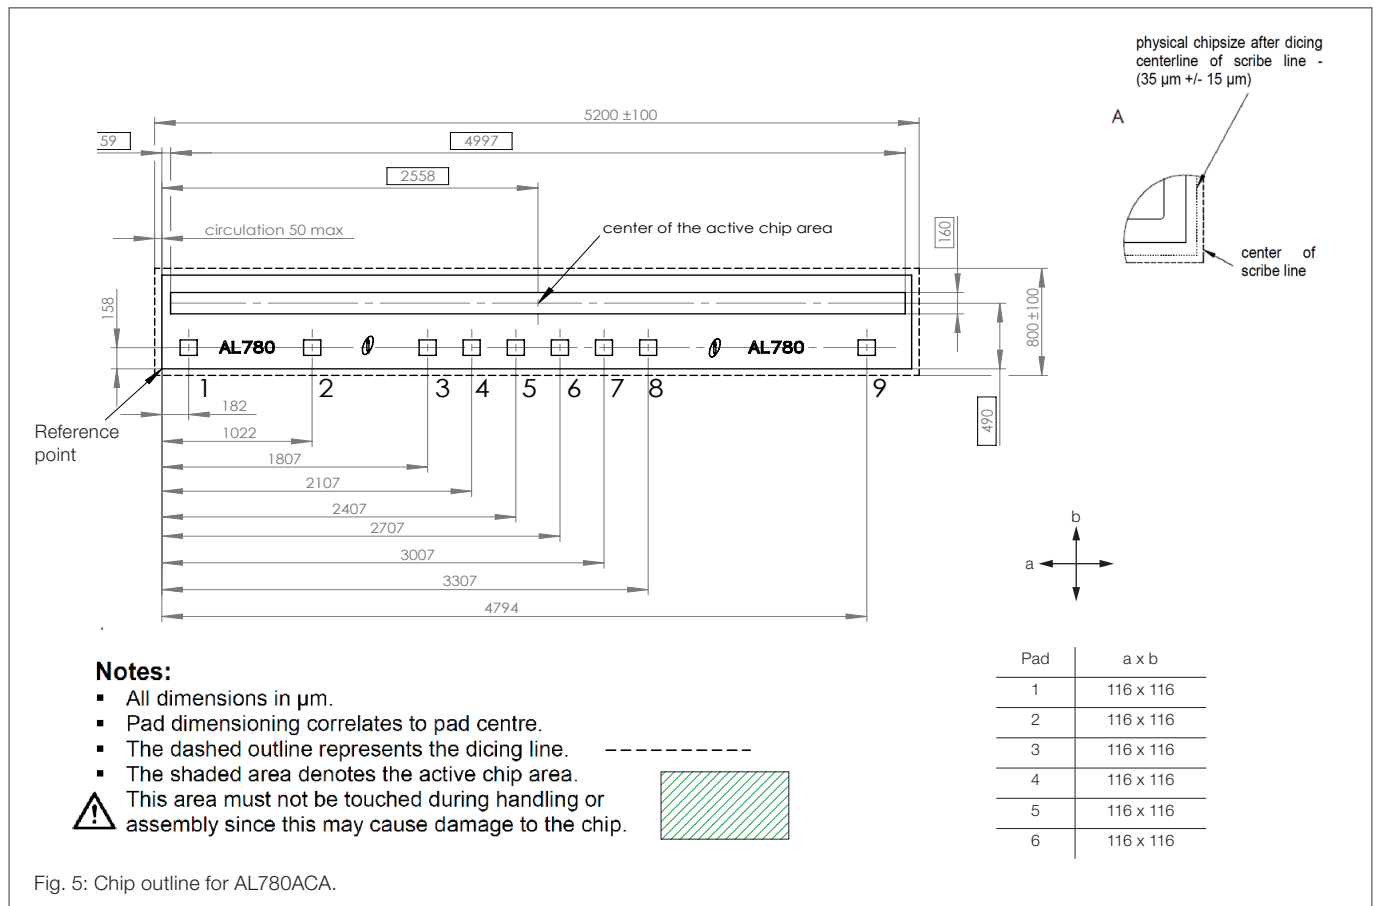

Fig. 5: Chip outline for AL780ACA.
1) Tolerances of chip see Fig. 5.